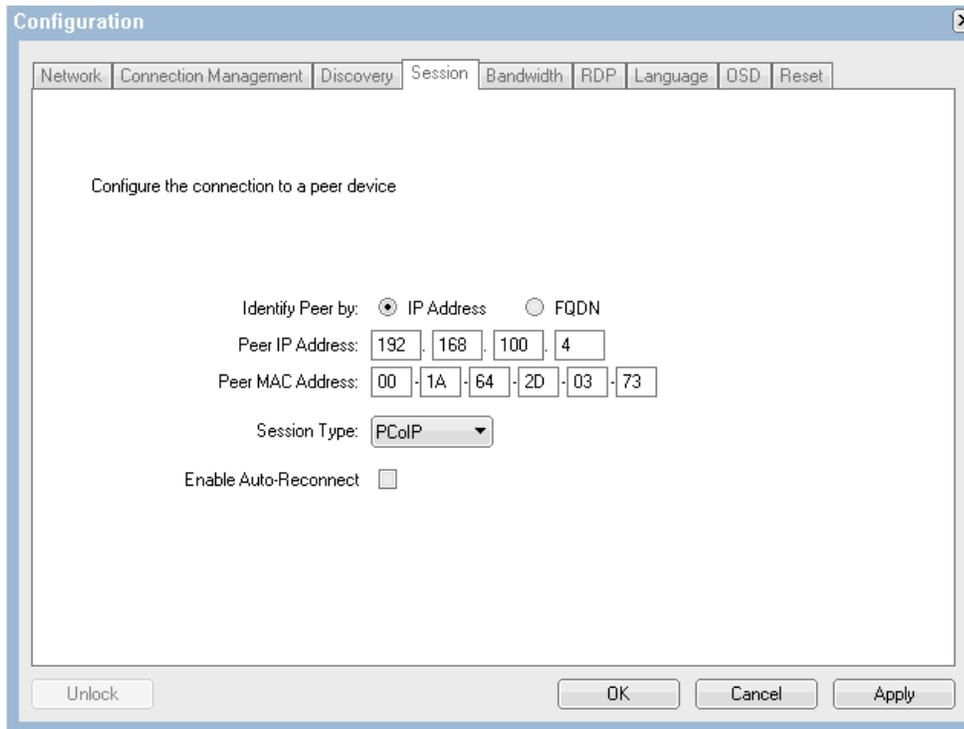

Figure 6-14 The Sessions tab of the CP20 interface
The Session tab, as shown in Figure 6-14, allows you to configure a peer-to-peer session by specifying the IP address and MAC address manually of the exact HC10 to which you want this CP20 to connect. For more information about how to use a peer-to-peer connection, see 6.5, “Setting up a peer-to-peer connection” on page 139.
- ▶ Leave an incorrect value for the MAC address as shown in Figure 6-14 on page 106 and try to connect to the HC10. The connection fails with the message "Session Refused!". Then, **click Options** → **Diagnostics**. In the Event Log, you see two entries: one that lists the incorrect MAC address and one that lists the MAC address that was expected. Simply copy that expected address into the fields as shown in Figure 6-14 on page 106. For example, if you specified a fake MAC address of all zeros (00-00-00-00-00-00), then the messages that you see in the event log would be similar to that shown in Example 6-1.